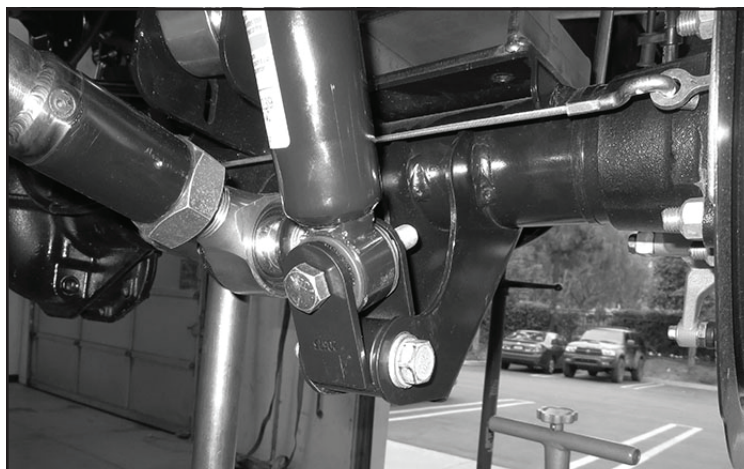

FIGURE 7 - STEP 6
6. Install the new bracket to the axle mount using the factory hardware. Torque to 103 ft-lbs. Repeat on the opposite side. **SEE FIGURE 7**